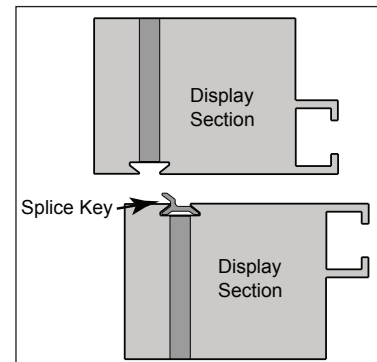

Figure 12: Installed Splice Key
1. Ensure the splice key is in the splice channel and the alignment brackets are installed on the bottom display section. Refer to **Figure 12**.